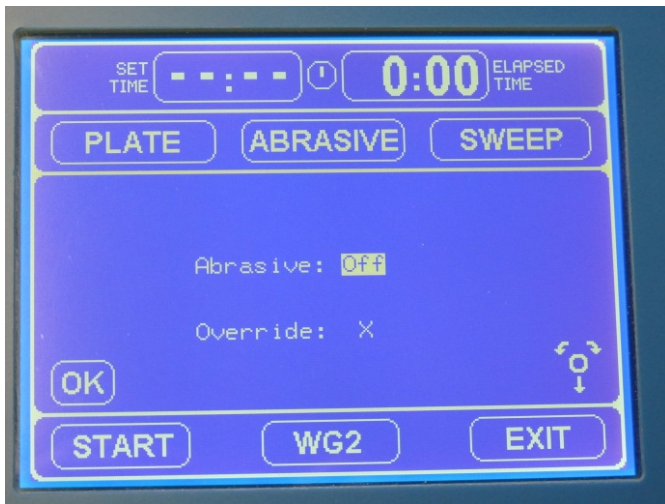

Figure 13
- a. Change **Abrasive** from "off" to "on" (Fig. 13).